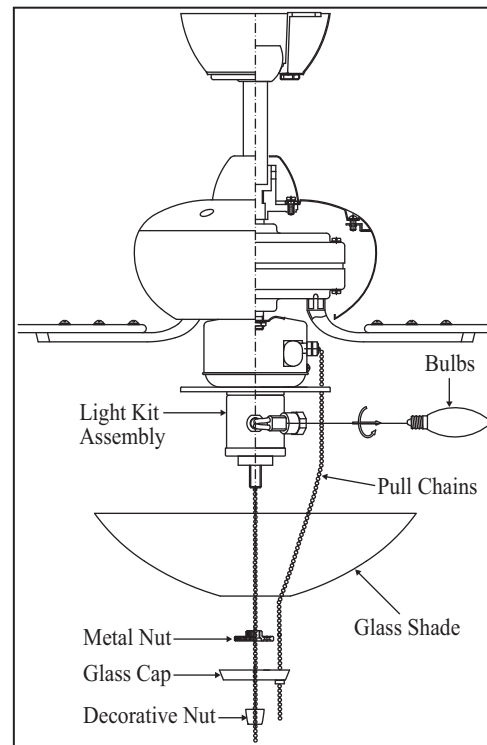

Figure 16
4. Remove the metal nut, glass cap and decorative nut from the light kit stem. Raise the glass shade up against the light kit. Place the metal nut on the top over the stem and turn it clockwise until it locks up against the glass shade. Do not overtighten. (Fig. 16)
5. Raise the glass cap and decorative nut against the glass shade and secure it to the stem by turning the decorative nut clockwise until snug. Do not overtighten. (Fig. 16)